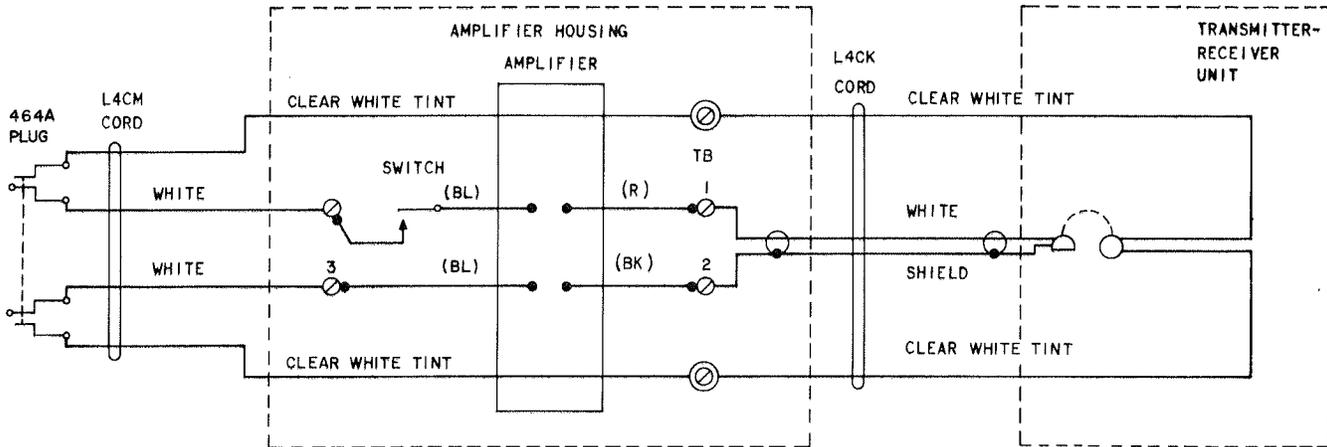

Fig. 8—281A Amplifier Connecting Diagram
the KS-2348 cord repair tool and remove the cord from the profiling assembly and plug shell. Insert the new cord terminals through the hole in one half of the plug shell and connect to cord terminals as shown in Fig. 8. Place profiling assemblies in shell half and reassemble the parts in the reverse order of removal.
as shown in Fig. 8 and assemble the parts in the reverse order of removal. Dress the leads as originally positioned.
Remove the housing screws using the 3-inch C screwdriver. Open the housing and remove the spring clip. Using the KS-6854 screwdriver remove the terminal screws on the switch. Using the same screwdriver remove the switch mounting screw and lift the switch out. Substitute the new switch and reassemble in reverse order of removal, connecting the leads as shown in Fig. 8. Dress the leads as originally positioned.
Remove the housing screws using the 3-inch C screwdriver. Open the housing and remove the spring clip. Note the dress of the leads. Using the KS-6854 screwdriver remove the terminal screws holding the printed wiring board terminals and remove the board. Substitute the new board and reassemble in reverse order of removal, connecting the terminal leads as shown in Fig. 8. Dress the leads as originally positioned.
3.13 *LACM Cord:* Disconnect the cord at the plug end as covered in 3.06. At the 281A amplifier end, disconnect the cord as covered in 3.10. Substitute the new cord and connect it to the plug and amplifier making sure the conductors are connected to the terminals in the plug and handle as shown in Fig. 8. Reassemble the parts in the reverse order of removal. Dress the leads as originally positioned.
the headset end, remove the housing screws using the KS-6854 screwdriver and remove the cap assembly. Remove the old cord and substitute the terminal board end of the new cord in the headset. Connect the new cord to the amplifier as shown in Fig. 8. Reassemble the parts in the reverse order of removal. Dress the leads as originally positioned.